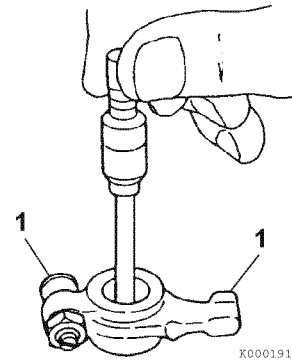

Figure 6-14
Use a test indicator and micrometer to determine if the inside diameter of all the rocker arm support brackets and the rocker arms (**Figure 6-14**) are within the specified limits. See *Rocker Arm and Shaft* on page 6-6 for the service limit.
Inspect the contact areas (**Figure 6-14, (1)**) for excessive wear or damage.